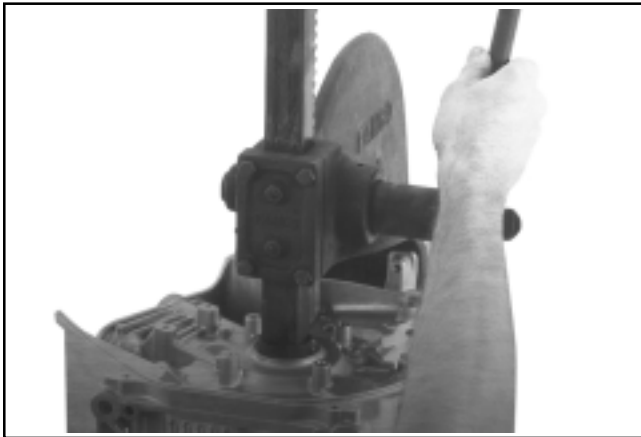

Figure 9-89. Removing Main Bearing with Press.
2. Remove the front main bearing from the crankcase using an arbor press. See Figure 9-89.